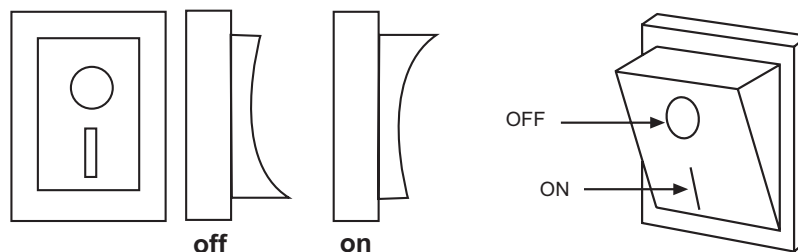

FIG. 1
- The switch button is located in the right side of the machine; to switch it on press the button in a way that the circle is in the area that stands out. (FIG. 1)
- To stop the machine, press the switch in a way that the line is in the area that stands out. (FIG. 1)